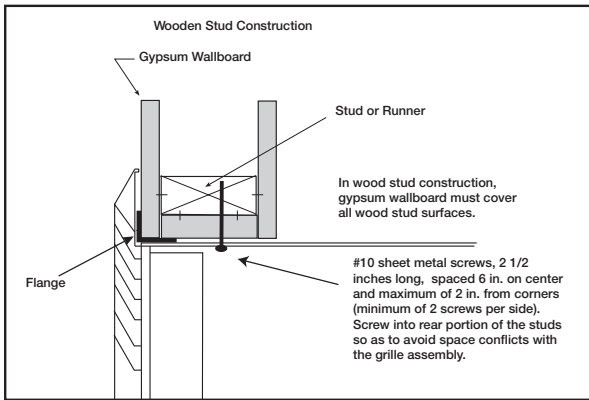
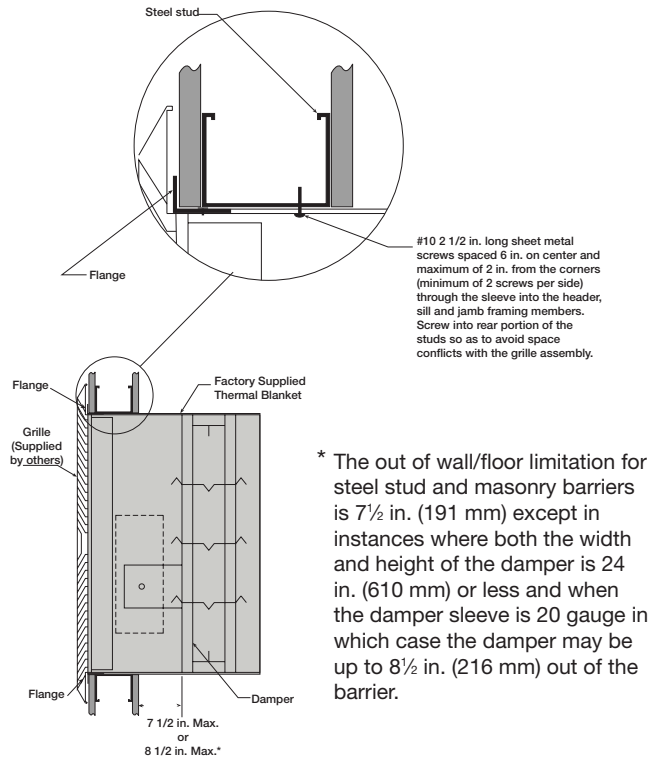
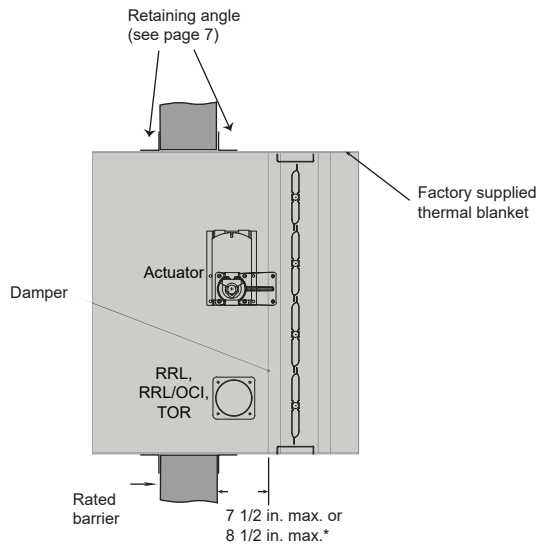

Figure 3 - Wood Stud
Figure 5: Through the Grille Access - Duct Terminates Metal Stud
Figure 7: Continuous Duct - Vertical Mount
- Prepare opening between studs and sleeve assembly as shown below (see **Figure 3 & 4**).
Figures 5 and 6 show installations for grille access applications. Figure 7 shows continuous duct installation.
Flange on front (grille end) of sleeve must be a minimum of 16 ga. (1.5 mm) steel and have $\frac{5}{8}$ in. (16 mm) minimum flange leg (refer to **Figures 5, 6, 9, 10, 11**). Using #10 (19 mm) sheet metal screws, screw from inside of sleeve through the rear portion of the studs (as shown in **Figures 3 & 4**). Space screws a maximum of 6 in. (152 mm) O.C. and a maximum of 2 in. (51 mm) from the corners (minimum of 2 screws per side). No retaining angles are required on the side of the wall opposite from the grille.
This method requires retaining angles on both sides of the barrier. Retaining angles for $1\frac{1}{2}$ hour rated dampers with a width 48 in. (1219 mm) or less must be a minimum of 20 ga. (1 mm). The leg of the retaining angle on the damper sleeve shall be a minimum of $\frac{1}{4}$ in. (32 mm). The leg of the retaining angle on the wall/floor shall be long enough to cover the annular space and overlap the wall/floor by a minimum of 1 in. (25 mm). See **Figures 7, 8, and 12**.